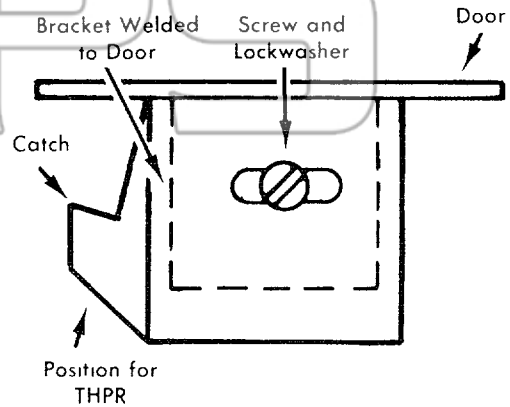

Figure 6
8. Reattach enclosure door if not done previously. On HPC switch enclosures, adjust door interlock per Figure 6 or Instruction GEH-3493 provided with HPC switch. Do not attempt to operate HPC switch with enclosure door open since device is interlocked with door.